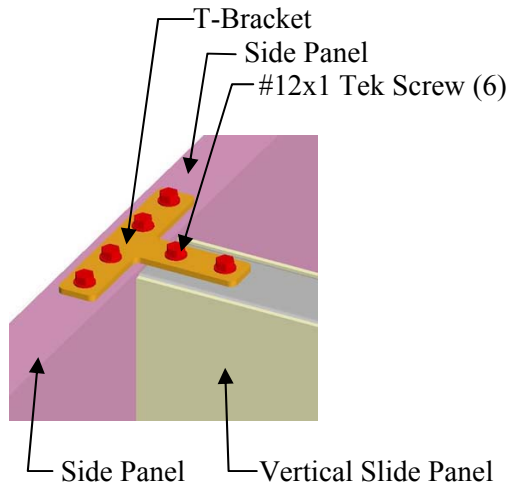

Figure 25 (On the Top)
If your shipment came with X brackets and T brackets as shown in (**Figure 25 & 26**). Please follow the directions below.
1. Attach T-Bracket by placing it on the top of both joining Side Panels and Vertical Slide Panel using 1" self-drilling Tek Screws as shown in (**Figure 25**). Follow the same instructions to attach Bracket on the other end of the kennels.